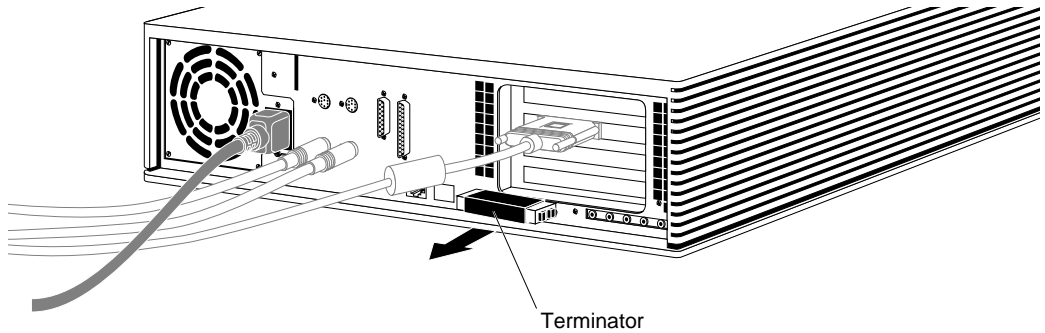

Figure 6-6 Removing the Terminator From the Indigo² IMPACT Workstation
- If you are attaching the device to the workstation, remove the terminator from the SCSI connector on the Indigo² IMPACT workstation by squeezing the clips on both sides of the terminator and pulling it off. (See Figure 6-6.) Save the terminator. You must reattach it to the SCSI connector if you remove and do not replace the external device.